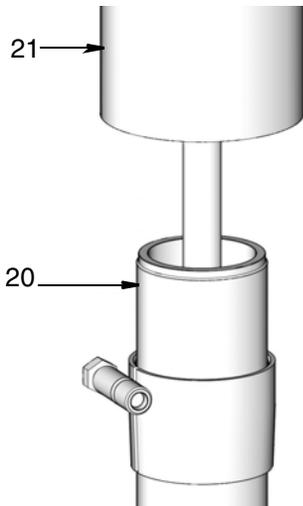

FIG. 9
- Unscrew down tube (20) from pump base (21) (FIG. 9).